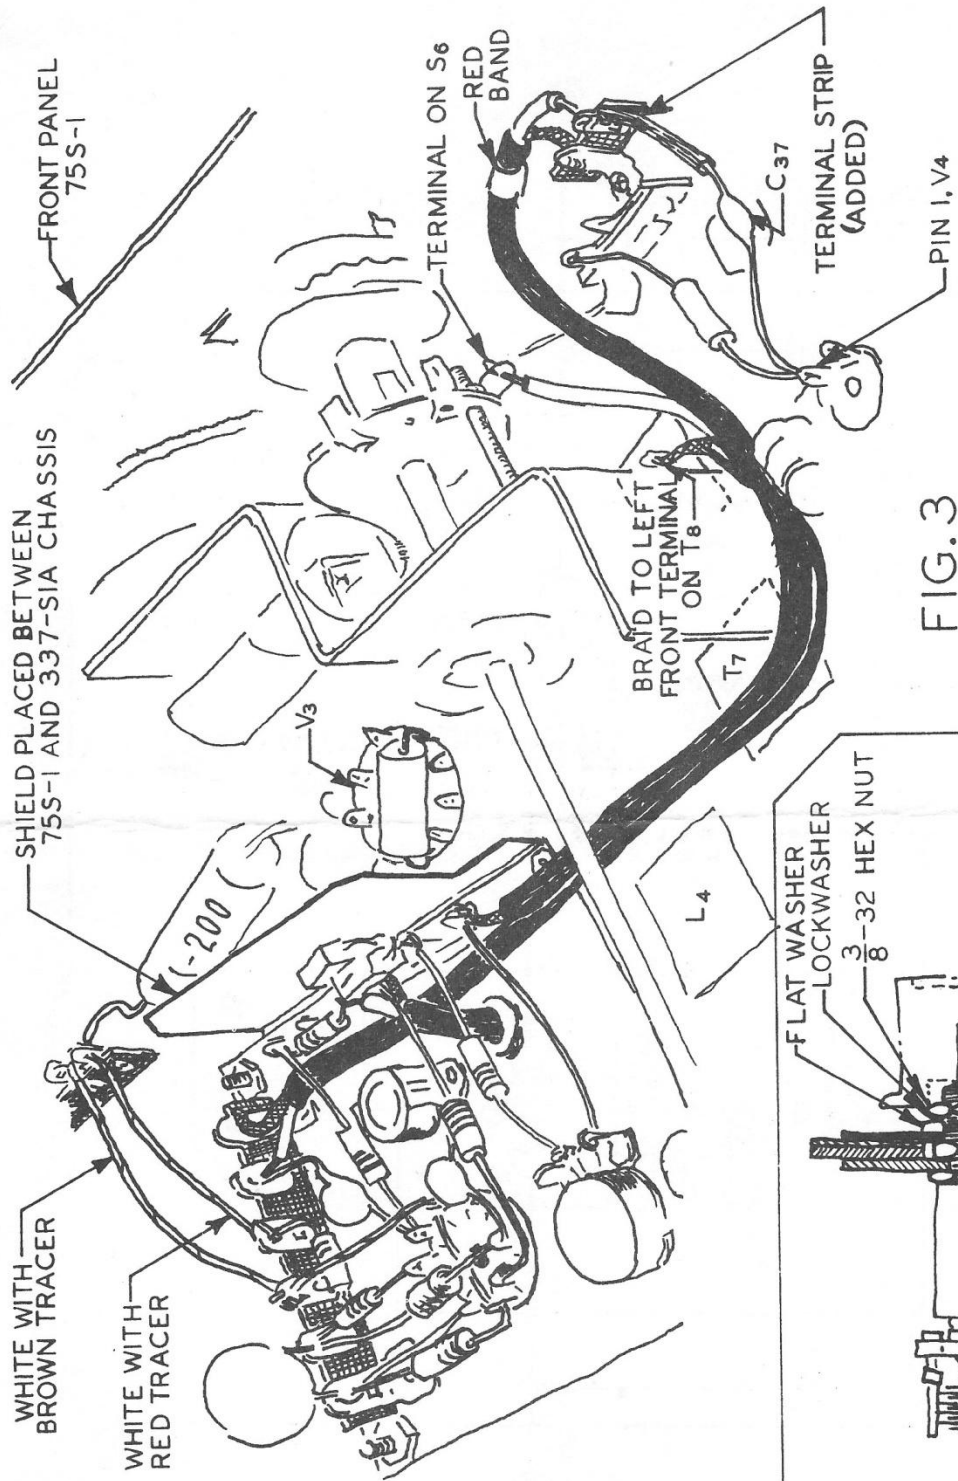

FIG. 3
9. Mount shield furnished as per Fig. 3. The shield lip is sandwiched between the chassis of the 75S-1 receiver and the 337-S1A notch filter with the slot in the lip of the shield fitting around the right front mounting screw.
16. Turn the chassis upside-down once more with the front panel facing you. Dress the two coaxial leads from the WATERS Q-Multiplier/Notch Filter chassis forward of L4 and behind T7, and behind and around to the left of the shield bracket which mounts S6. (See Fig. 3).
20. Connect the center conductor of the remaining piece of coax to the terminal on S6 from which C37 was removed, and connect the braid to the left front terminal of T8 (ground). Solder both. (See Fig. 3).
21. There is a 5-lug terminal strip just forward of the RF coil shield cover to which the wires in the cable of the 70K-2 VFO are connected. (See Fig. 3).